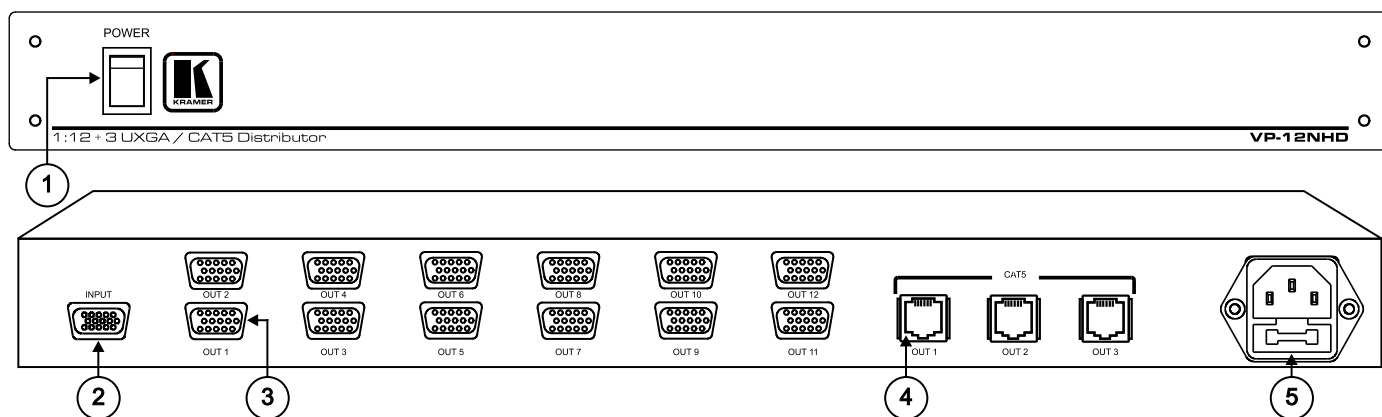

Figure 1: VP-12NHD 1:12 + 3 UXGA / CAT5 Distributor
- Front and rear panels (see Figure 1 and Table 1)